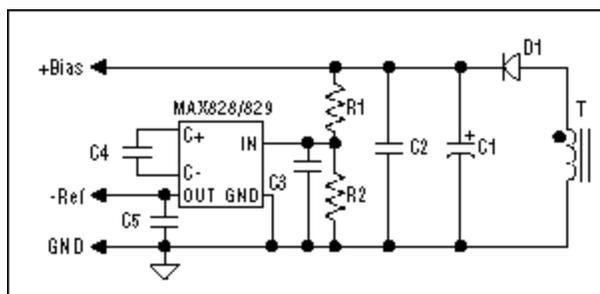

Figure 2. -Ref circuit employing the MAX828/MAX829 charge-pump IC.
**Figure 2** shows a simple solution that uses Maxim's space-saving and highly efficient charge-pump product, the MAX828/MAX829. The MAX828 is designed for 0°C to +75°C and the MAX829 for -40°C to +85°C.